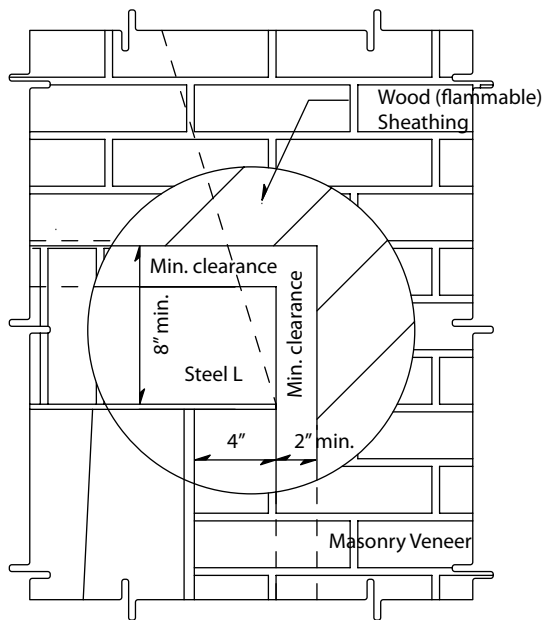

Figure 32
A steel "L" (maximum four inch (4") x six inch (6")) will need to span the top of the finished fireplace opening to carry the full masonry veneer over the IBV firebox opening. (Figure 32 & 33)
This steel "L" should have about four inch (4") end bearing. This bearing surface shall be provided in the veneer work. (Figure 32)
1. The vertical leg of the steel "L" cannot exceed six inches (6"). (Figure 32)